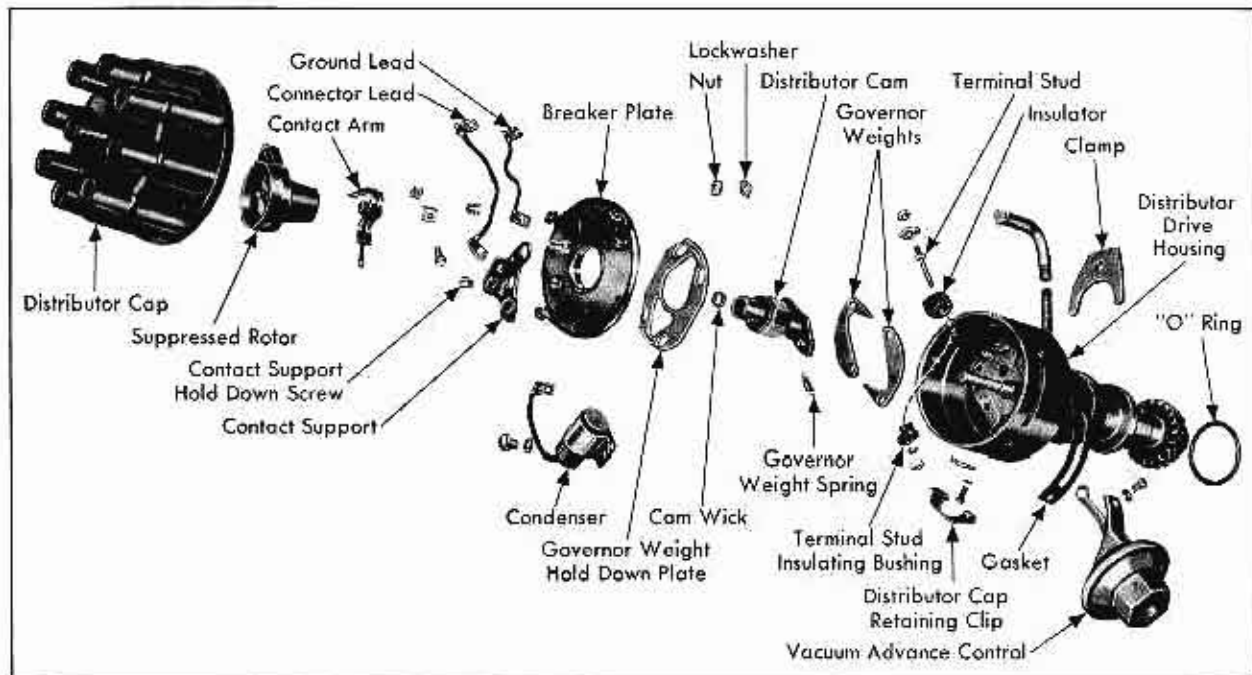

Fig. 11-8 Distributor Disassembled
2. Disconnect vacuum pipe at vacuum control, Fig. 11-8.
1. Remove rotor from end of distributor shaft, Fig. 11-8.